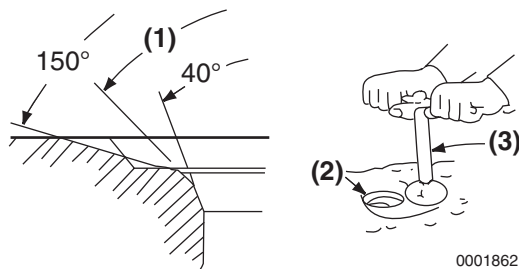

Figure 6-23
Light cutting can be performed by the use of a hand-operated cutter (**Figure 6-23, (3)**).
The valve seat diameter can be adjusted by top-grinding with a 150° stone to make the seat diameter smaller, and bottom-grinding using a 40° stone to make the seat diameter larger. Once the seat location has been corrected, grind and lap the seat angle (**Figure 6-23, (1)**) to specification. See *Cylinder Head* on page 6-6 for specifications.